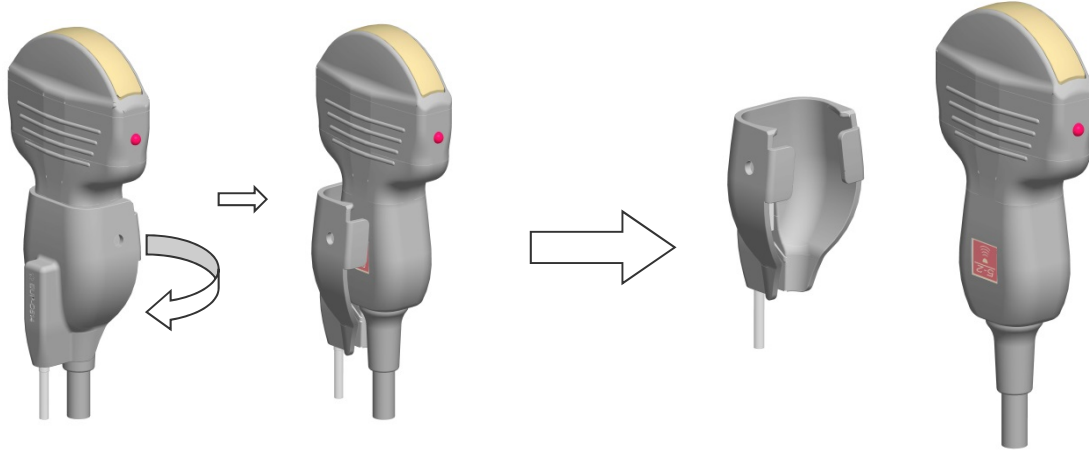

Fig. 6 How to release the Magnetic sensor attachment
- 1) Turn around the Magnetic sensor attachment and release it from the probe as shown in Fig. 6.